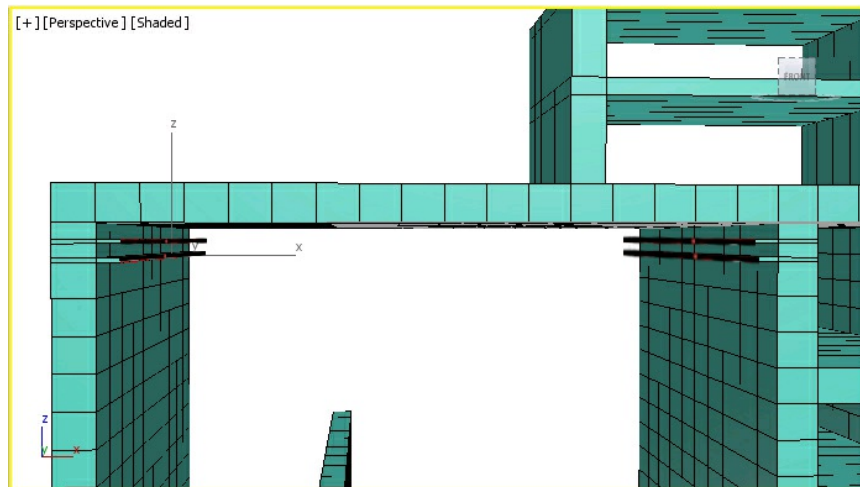

Figure 9-89 Selected polygons extruded
7. Choose the **Extrude Settings** button from the **Extrude** drop-down in the **Polygons** panel; the **Extrude** caddy control is displayed in the viewport. In this caddy control, set the value **5.5** in the **Height** spinner and choose the **OK** button; the selected polygons are extruded, as shown in Figure 9-89.